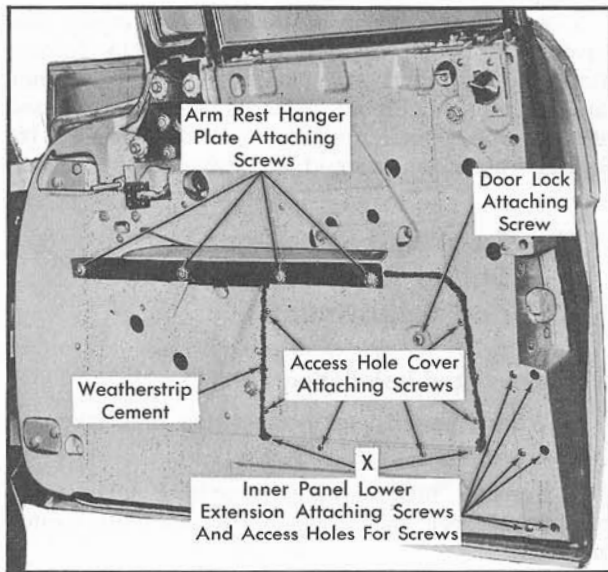

Fig. 17-13 Access Hole Cover Removal
2. Remove arm rest hanger plate attaching screws, Fig. 17-13, and remove hanger plate.
3. Remove door lock attaching screw, Fig. 17-13.
NOTE: After installation of cover, apply a coating of an approved weatherstrip cement along the top and side joints of cover to inner panel. Apply cement at the lower corners and offset area, indicated at "X" in Fig. 17-13. Special attention should be given this area.